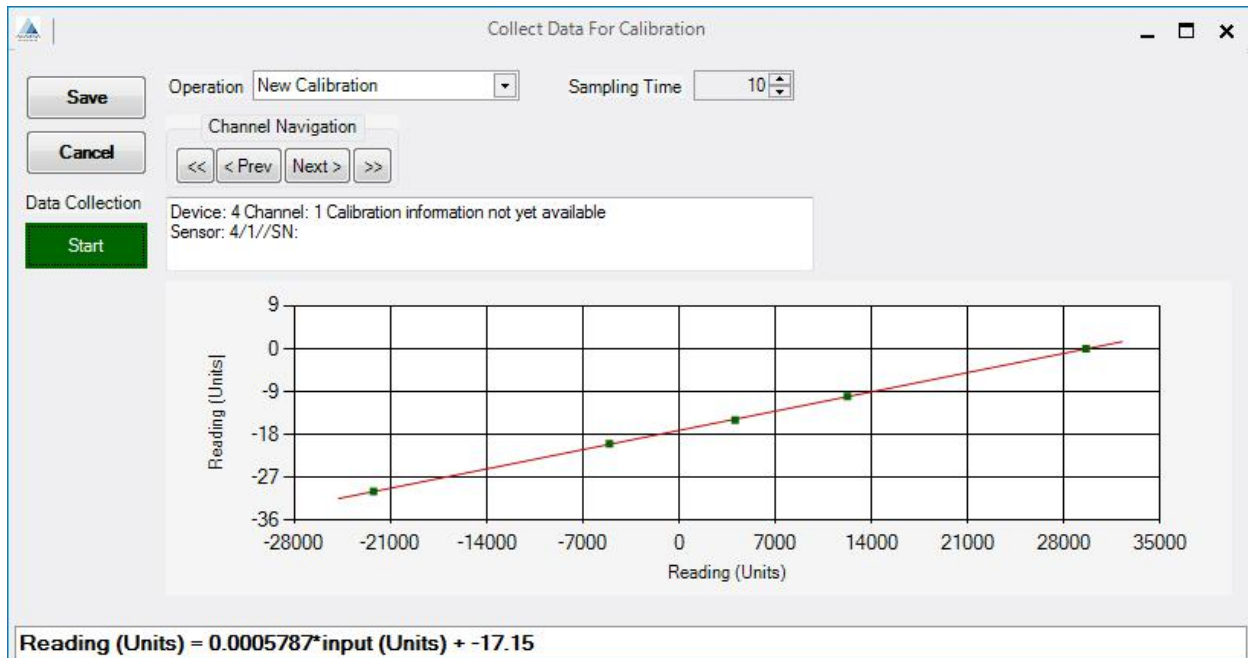

Figure 49: Calibration after Five (5) Data Points
- After 5 data points have been added to the calibration (see Figure 49).